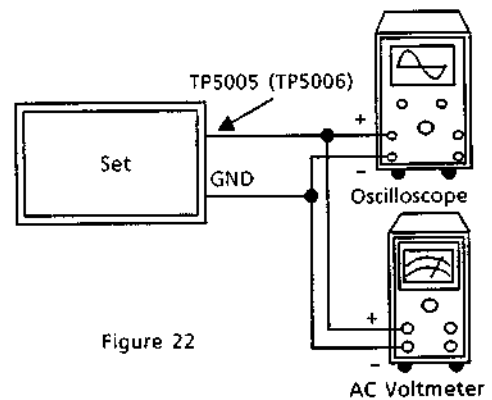

Figure 22
- (1) Make the connections as shown in Figure 22 and turn the power ON.
- (2) Insert the metal tape (TDK AC-712) into deck B and set to REC PLAY mode.
- (3) Set the metal bias volume VR5071 (VR5072) to the maximum in the mode set in (2). Adjust L5051 (L5052) so that the output of TP5005 (TP5006) becomes maximum.